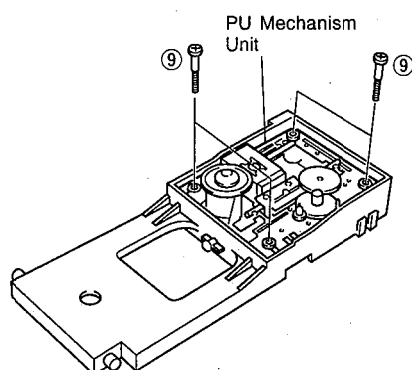

Fig. 5
- Pull out 4 Pins (⑨) and then remove the PU Mechanism Unit as shown in Fig. 5.